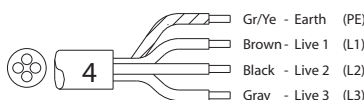

Fig. 10
- (fig. 10) 3 ~ 230V (4 core cable)